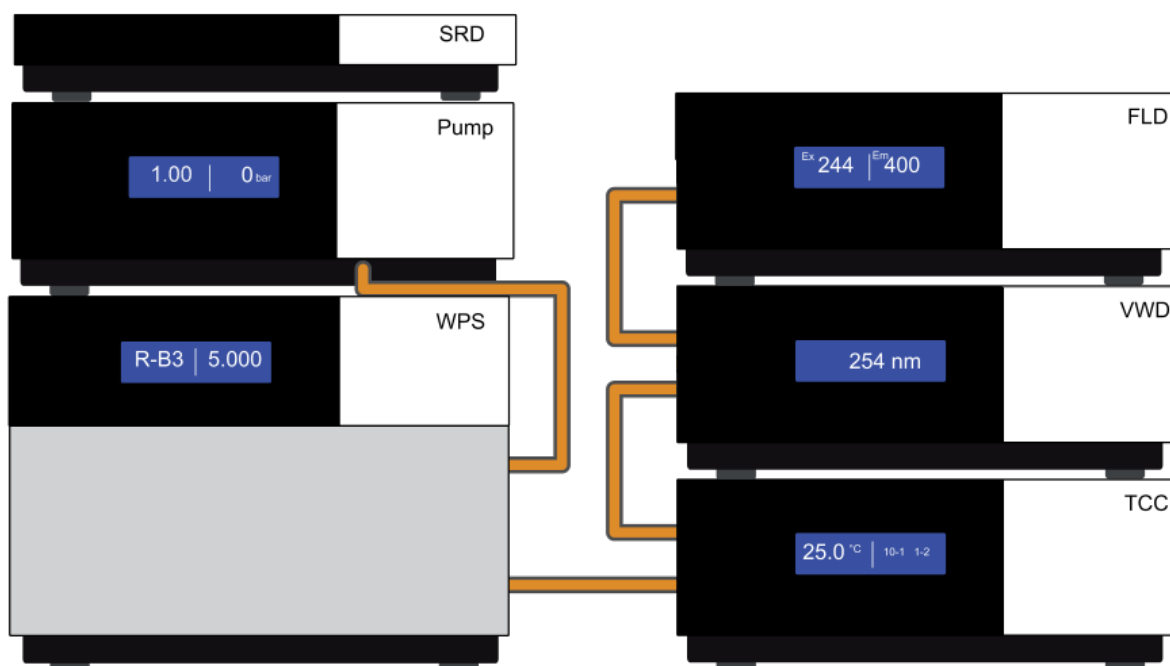

Fig. 7: Module arrangement for an UltiMate 3000 RS system with two detectors (example)
- In a system that includes a UV detector in addition to the fluorescence detector, the modules can be arranged as shown in Fig. 7.